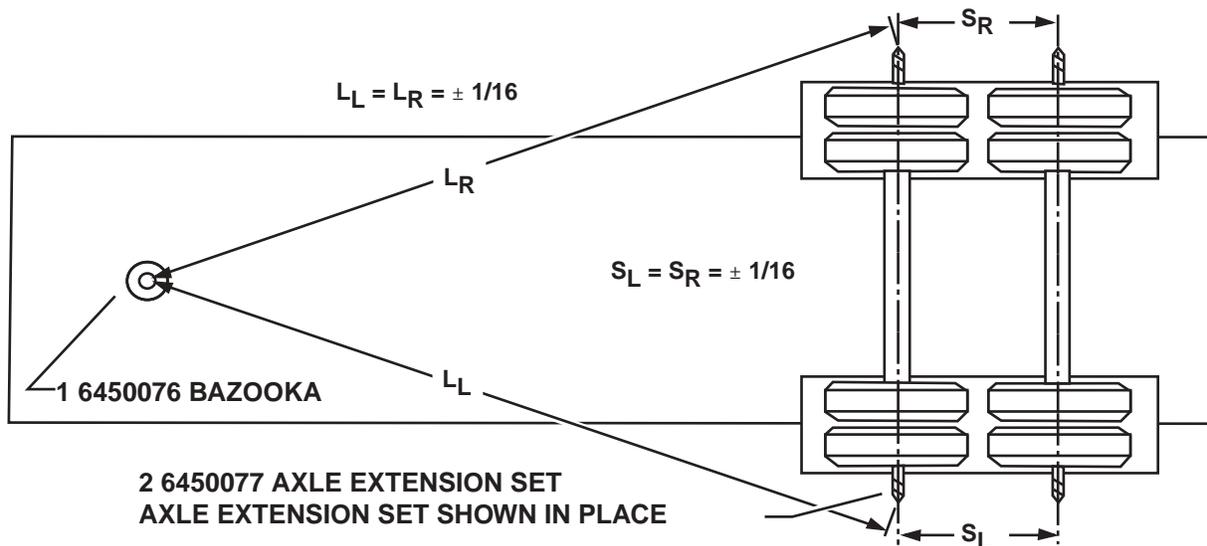

Figure 15. Alignment of Axle
4. Inspect axle alignment to kingpin. Forward axle should be $\pm 1/16$ " left to right relative to kingpin. Rear axle, if equipped, should be in line with forward axle $\pm 1/16$ " axle center to axle center. Refer to axle alignment procedure shown in Figure 15.
1. Align the forward axle to center of kingpin (see "A" in Figure 15), then align rear axle to center of forward axle (see "B" in Figure 15). The measurement from left to right side of axle centers should not exceed 1/8" difference.
5. After alignment is achieved, re-install anti-turn washer and weld at positions as shown in figure 15. Re-torque the eccentric bolt lock nut to specified torque.